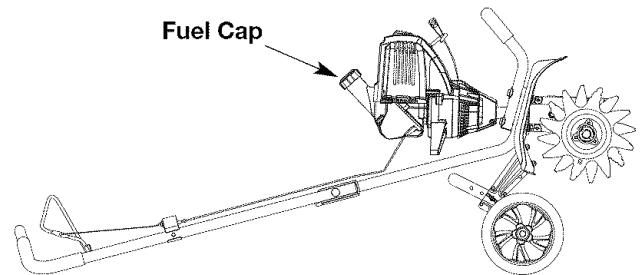

Fig. 9
**NOTE:** Fill or add fuel to the tank only when the cultivator is in a horizontal position (Fig. 9).
- Place the unit on a flat, level surface to get a proper oil level reading (Fig. 9).